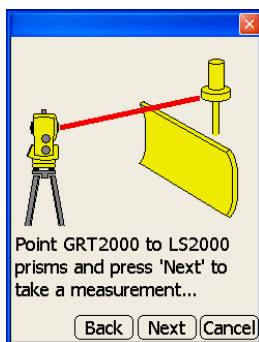

Figure 5-17. Sight LS-2000 with GRT-2000
10. Accurately sight the GRT-2000 telescope on the LS-2000 prism, and press **Next** to measure the sensor position (Figure 5-17).